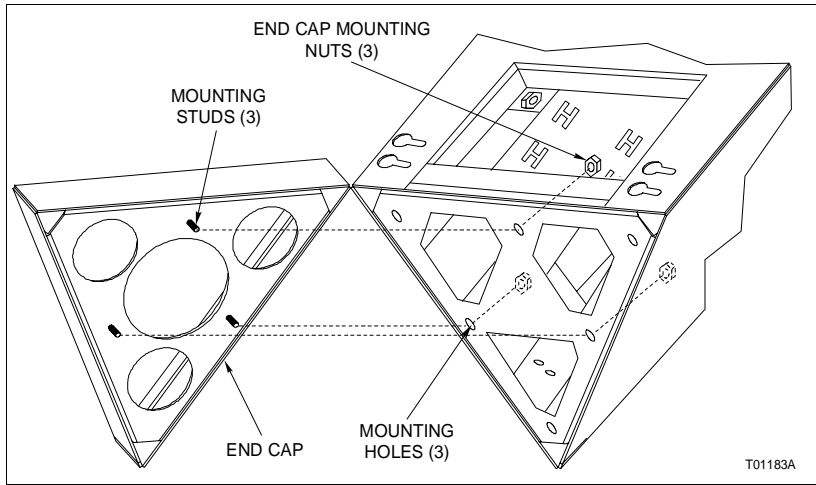

Figure PR5-1. End Cap Installation
1. Mount the end cap to the beam by inserting its three mounting studs through three of the six mounting holes and weld nuts in the beam (Fig. PR5-1). The orientation is not important as long as the top edge of the end cap aligns with the top edge of the beam.